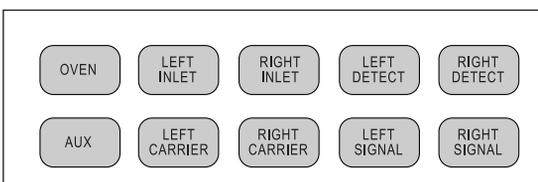

Figure 3-1. Zone and Device Keys to Set Run Parameters
2. A default analytical method has been installed in the TRACE GC. To see its parameters, press each of the keys shown in Figure 3-1 and examine the settings for each menu item.